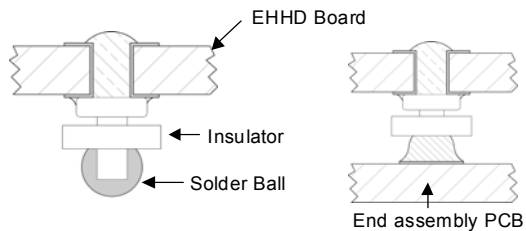

Figure 22. Column Pin Connector Before and After Reflow Soldering.
The surface mountable modules in the EHHD006A0Bxx-S family use our newest SMT technology called "Column Pin" (CP) connectors. Figure 22 shows the new CP connector before and after reflow soldering onto the end-board assembly. The CP is constructed from a solid copper pin with an integral solder ball attached, which is composed of tin/lead (Sn/Pb) solder for non-Z codes, or Sn/Ag3/Cu (SAC) solder for -Z codes.